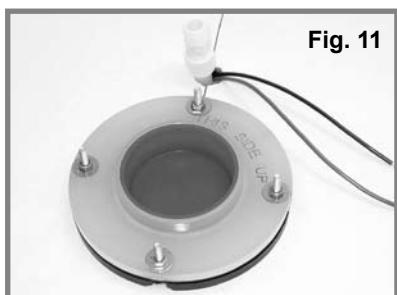

Fig. 11
STEP 12: Install floor flange adapter with words "THIS SIDE UP" facing up. Tighten adapter to floor flange using four flat washers and hex nuts. Tighten in criss-cross pattern (fig. 11).